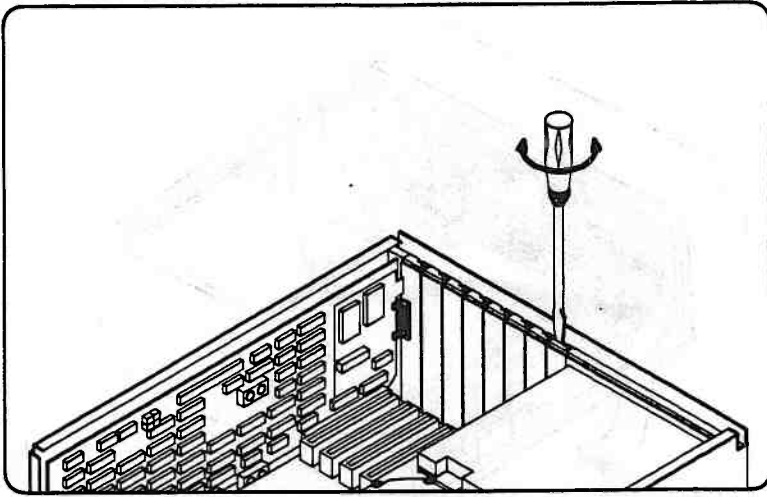

Figure 3-42. Removing the Expansion Slot Cover
21. Using a screwdriver, remove the Expansion Slot Cover closest to the HDU (Figure 3-42) on the rear panel.